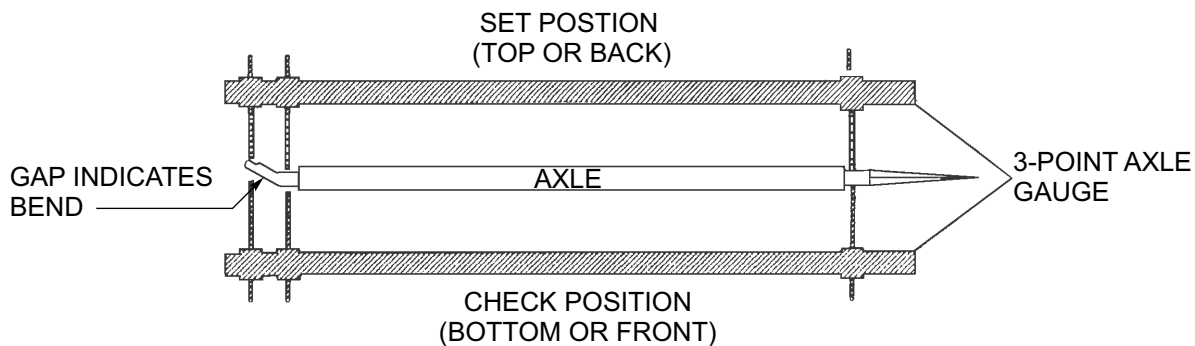

Figure 4-6: Checking Axle for Bend
2. Place a 3-point axle gauge against the front side of the axle, and adjust each axle gauge point to the axle. (Double point end against the inner and outer wheel bearing surfaces of the spindle being checked and the other point on the inner bearing surface on the other spindle **(See Figure 4-6.)**)
3. Move the axle gauge and place against the back side of the axle. If either of the points of double point end fails to touch the axle surface, a bent spindle is evident. A point gap of .015" or more is considered excessive tire "toe" and the axle must be replaced **(See Figure 4-6.)**